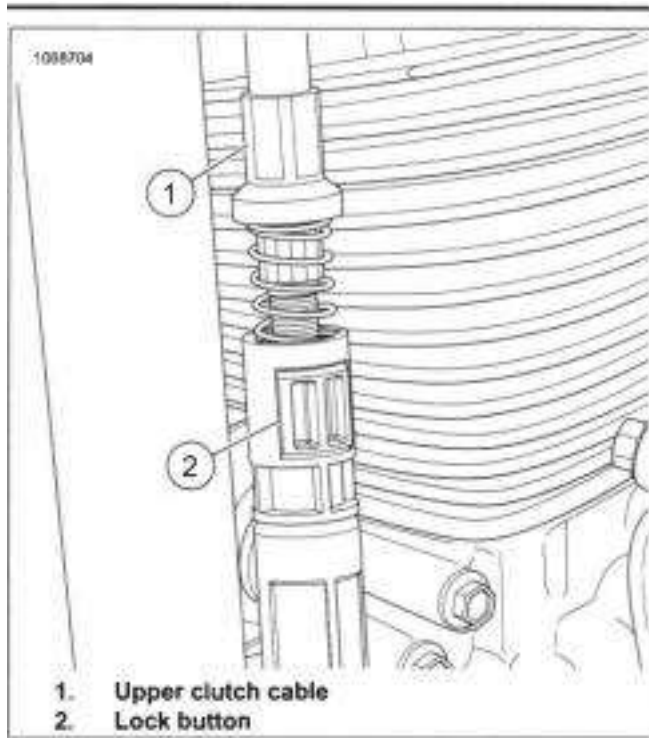

Figure 2-24. Lock Button
3. See Figure 2-24. Identify upper clutch cable (1) and red lock button (2).